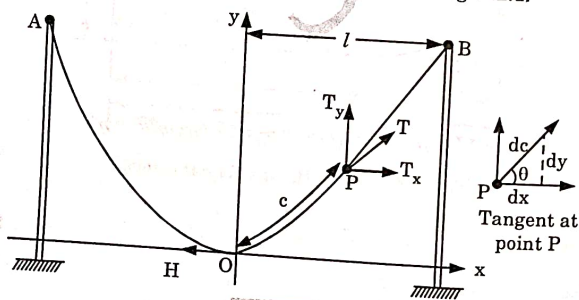

Fig. 3.2.1.
- Consider a conductor, supported at the points A and B with O as the lowest point on the conductor, as shown in the Fig. 3.2.1.